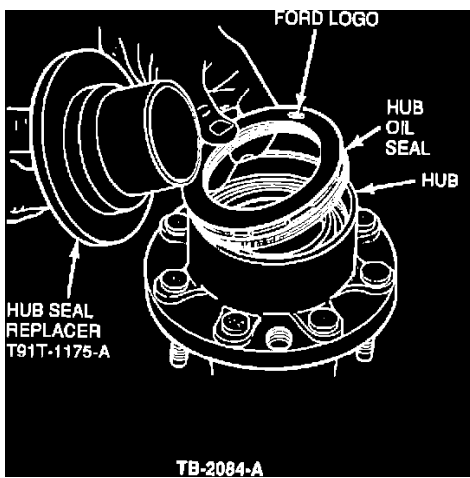

Figure 3
5. Install the seal in the hub with the Ford logo facing up, Figure 3.